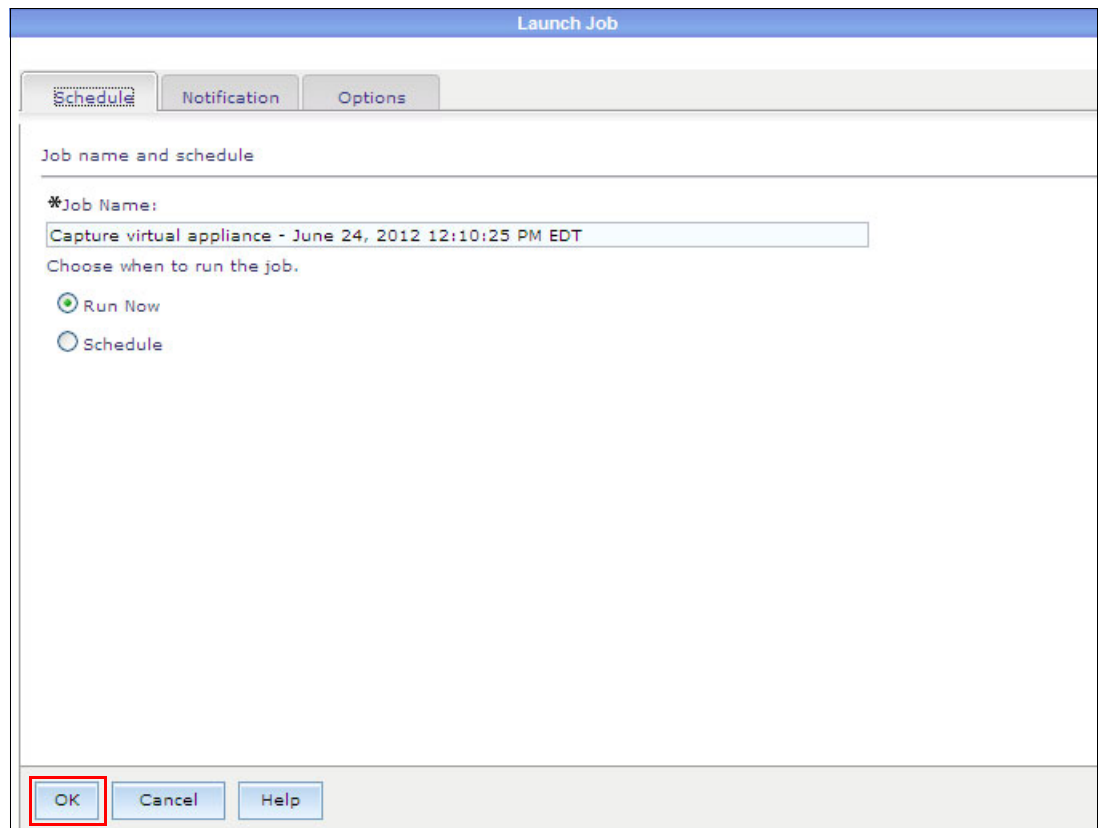

Figure 10-125 Launch Job menu
8. Figure 10-125 shows the menu for starting jobs. Click **OK**.